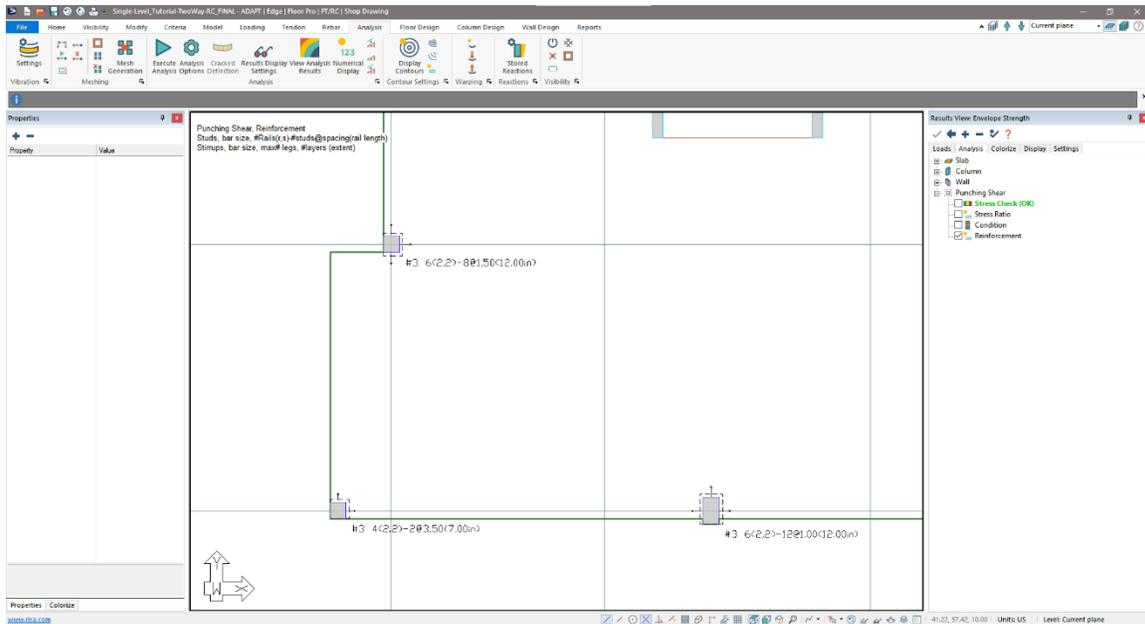

FIGURE 7-10
- Zooming in on the columns that have a need for reinforcement we can now see the punching shear reinforcement called out on plan as shown in **FIGURE 7-10**.